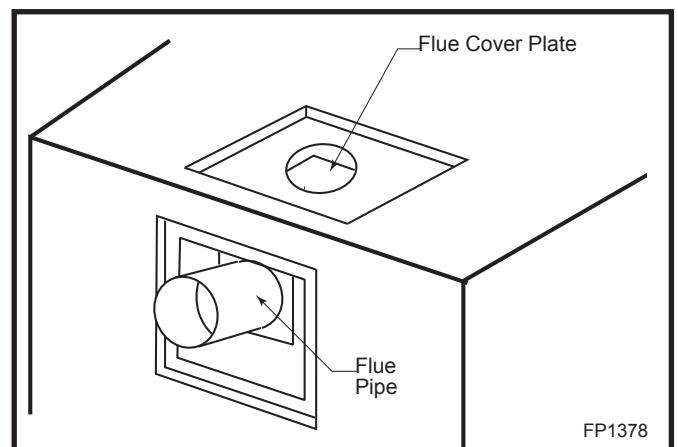

Fig. 11 Remove flue pipe and flue cover plate.
4. Remove the four (4) screws securing the flue cover plate to the top of the intake box and remove the cover and gasket. (Fig. 11)
5. Remove four (4) screws securing the flue pipe to back of the intake box and remove pipe and gasket. (Fig. 11)